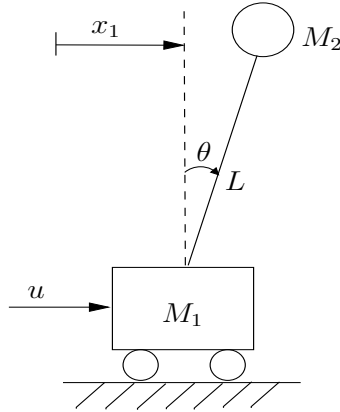

Figure 2.22: Cart-pendulum.
14. *A favourite toy control problem.* The problem is to get a cart automatically to balance a pendulum, as shown in Figure 2.22. The cart can move in a straight line on a horizontal table. The position of the cart is x_1 referenced to a stationary point. The pendulum, modeled as a point mass on the end of a rigid rod, is attached to a small rotary joint on the cart, so that the pendulum can fall either way but only in the direction that the cart can move. There